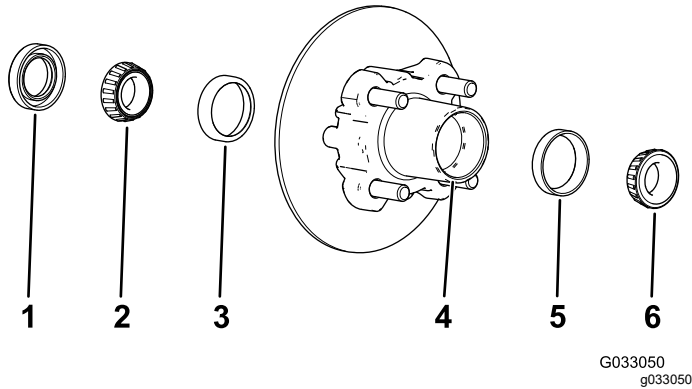

Figure 24
1. Remove the outboard bearing from the hub (Figure 24).
2. Remove the seal, inboard bearing from the hub (Figure 24).
5. Clean the cavity of the hub of all grease, dirt, and debris (Figure 24).
7. Fill the cavity of hub 50 to 80% full of the specified grease (Figure 24).
8. Assemble the inboard bearing onto the race at the inboard side of the hub and install the seal (Figure 24).